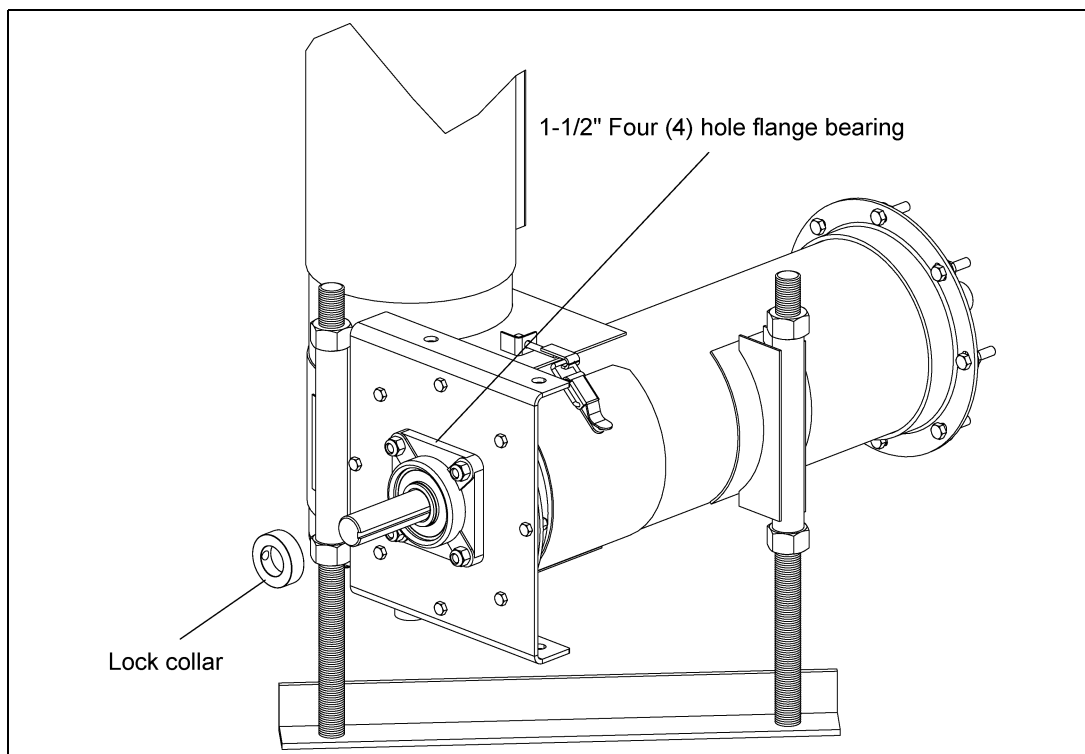

Figure 4C
7. Loosen and remove the lock collar on the 1-1/2" four (4) hole flange bearing. (See Figure 4C.)